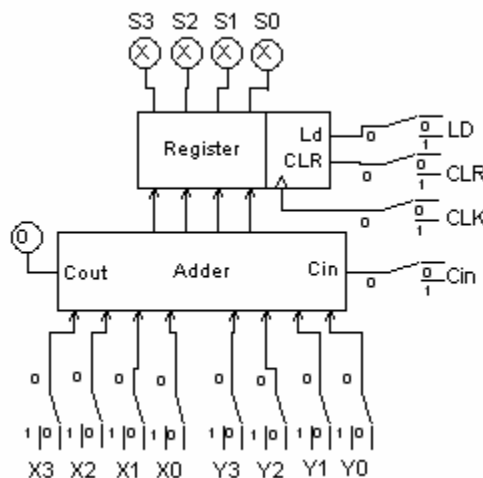

Figure 10. N-Bit Adder
- Connect the adder and register and add probes and switches as shown in Figure 10. Select **Show I/O Values** on the **View** menu.